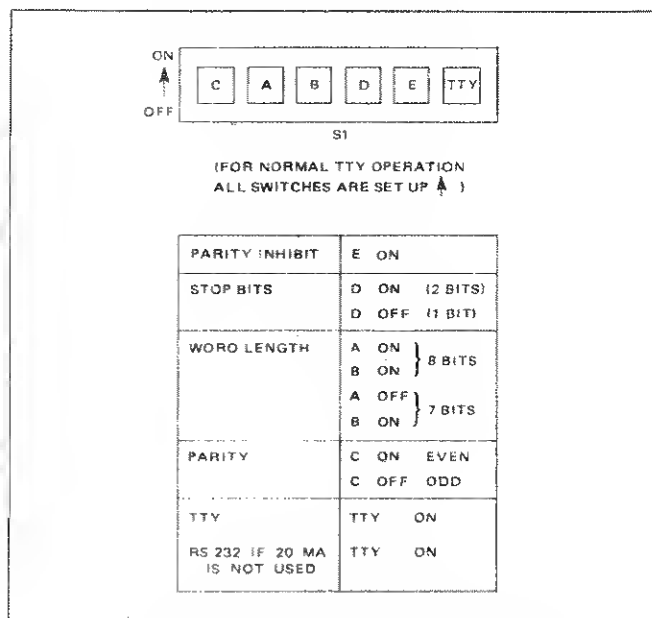

Figure 3.6 - Operating Mode Selection
3.13.1 The option 57 is equipped with a universal asynchronous receiver/transmitter (UART) permitting two-wire transmission and reception of data with a similarly equipped terminal or computer. To accommodate the various system programs and methods, provisions are made on the board (switch S1) to select: parity inhibit, one or two stop bits, word length, and odd or even parity. The switch and position arrangements for various operating setups are shown in figure 3.6.